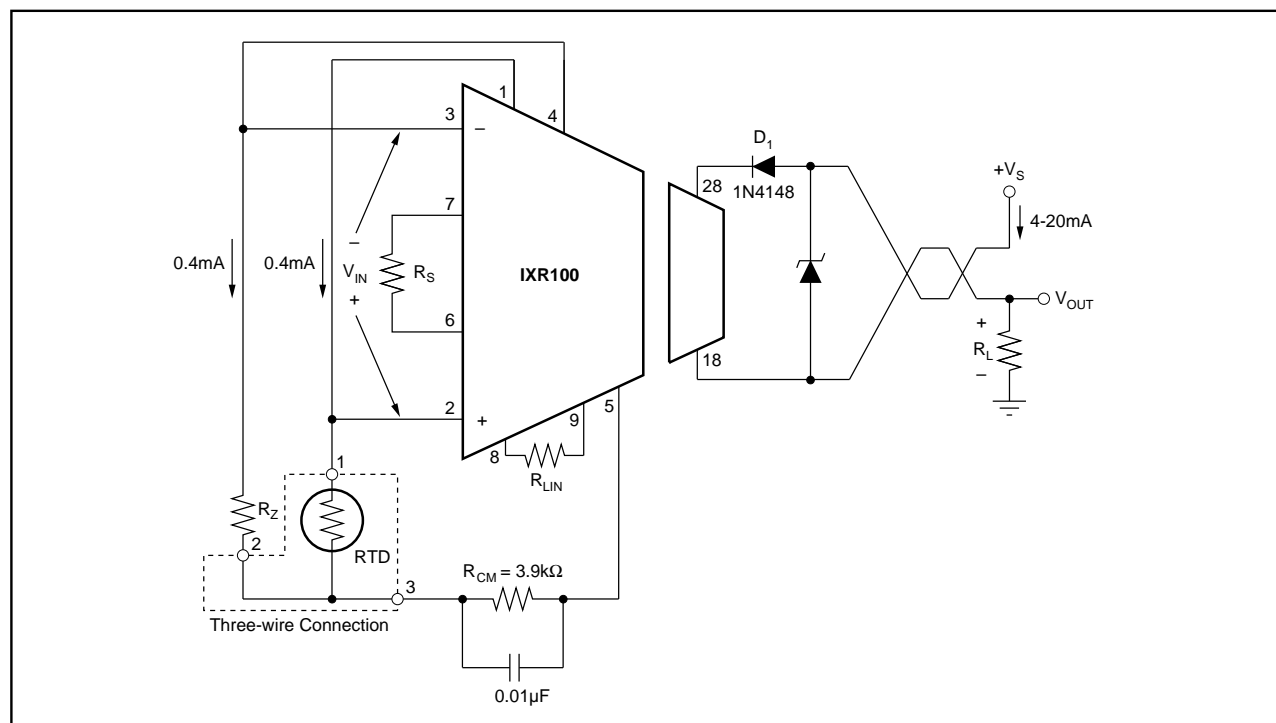

FIGURE 7. Basic 3-Wire RTD Connection for Increase-Increase Action.
- It is recommended that a reverse polarity protection diode be used. This will prevent damage to the IXR100 caused by a transient or long-term reverse bias between pins 18 and 28. This diode can be connected in either of the two positions shown in Figure 7, but each connection has its trade-off. The series-connected diode will add to the minimum voltage at which the IXR100 will operate but offers loop and device protection against both reverse connections and transients. The reverse-biased diode in parallel with the IXR100 preserves 11.6V minimum operation and offers device protection, but could allow excessive current flow in the receiving instrument if the field leads are accidentally reversed. This is particularly
In three-wire applications, shown in Figure 7, the RTD and  $R_Z$  lead arrangements set up a pseudo-Kelvin connection to the RTD. This occurs because the currents through the three wires are set up in opposing directions and cancel IR drops in the RTD leads. The current sources are both modulated
In some applications of the IXR100, the RTD will be located remotely. In these cases, it is possible for open circuits to develop. The IXR100 responds in the following manner to breaks in each lead. The following connections refer to the RTD connections shown in Figure 7.